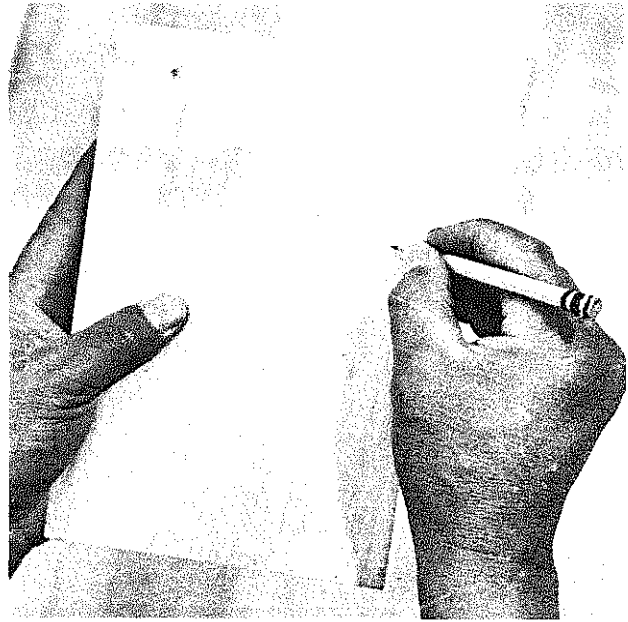

Fig. 4-17 Finger gauging
1. Hold the pencil in the position shown in figure 4-17.